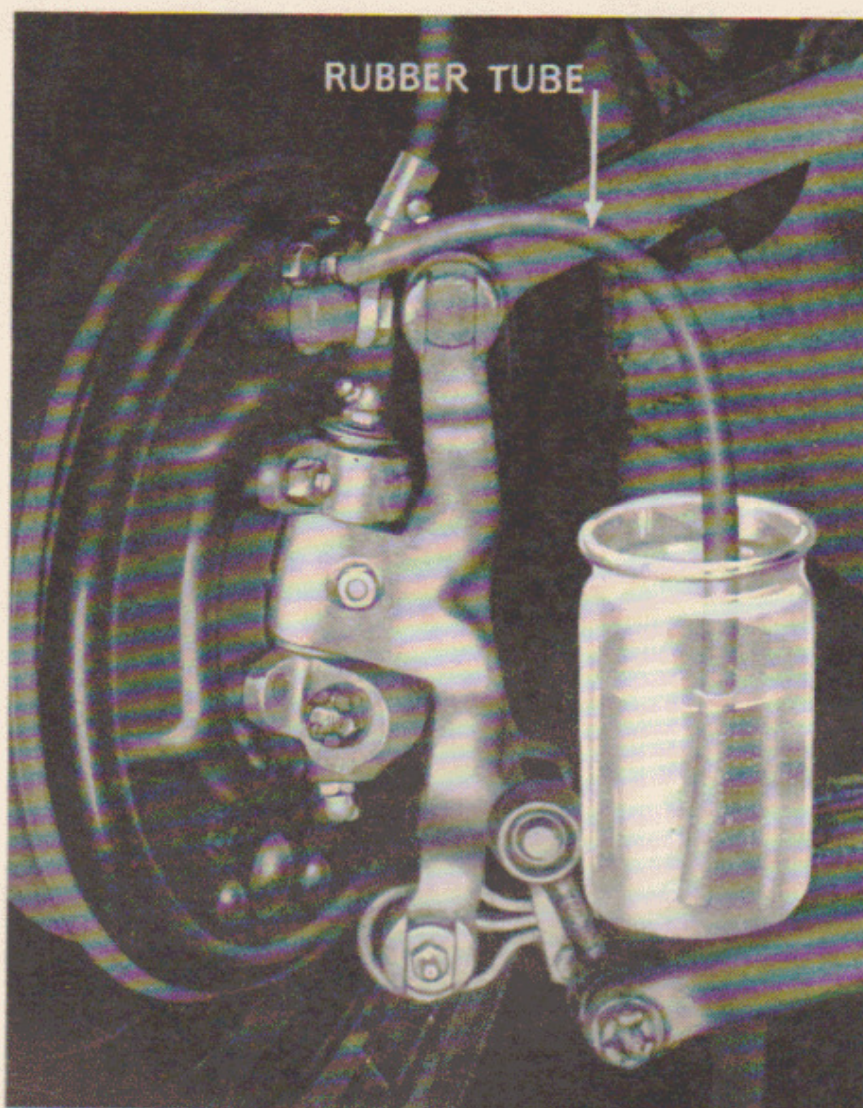

Fig. 46.
2. Remove the rubber dust cover on the bleeder nipple of the brake cylinder concerned, and fit bleeder pipe in its place, allowing it to hang in a clean container partially filled with Girling Hydraulic Fluid, so that the end of the pipe is below the level of the fluid (see Fig. 46).